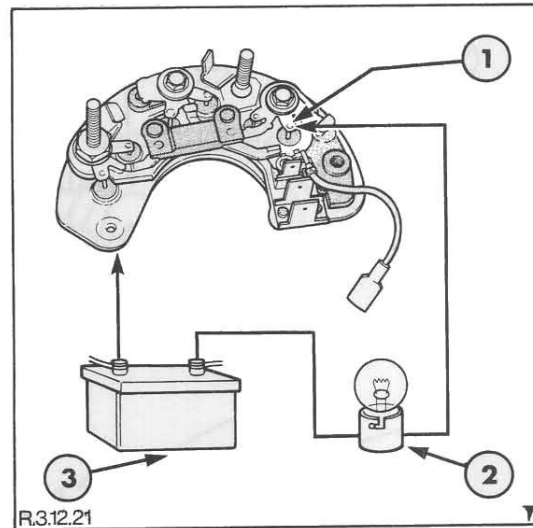

Figure 21
1. Connect a 12 volt battery and a 2.2 watt test lamp in series with one of the diodes. One test lead is applied to the diode connecting pin and the other lead to the plate into which the diode is mounted. Figure 21.